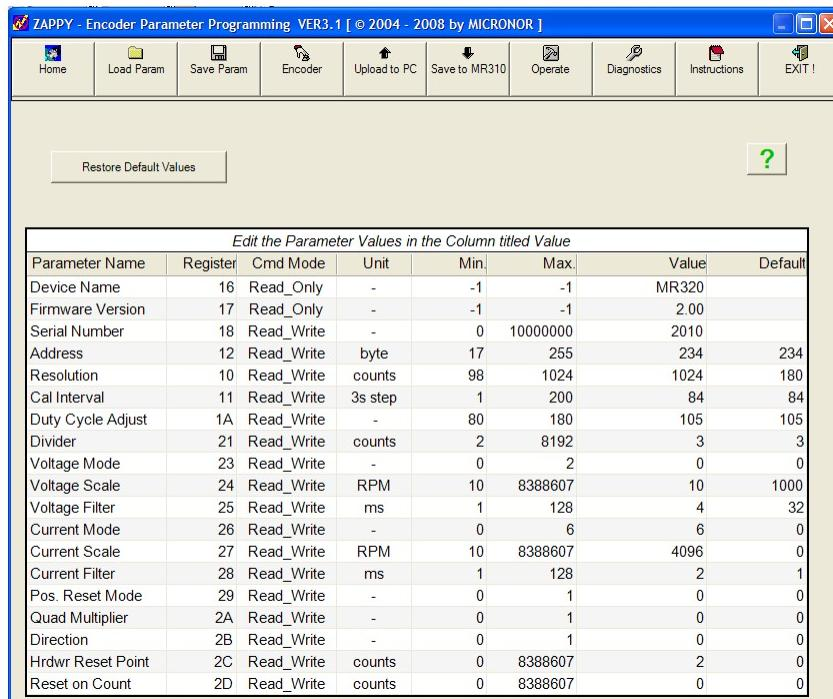

Figure 15. ENCODER Table View Screen via ZAPPY™ Software
- STEP 1: Select [UPLOAD TO PC] to load the current encoder parameter values from the MR310 into the Encoder Table View per Figure 15. If there is no serial communications connection, you will experience a “Communications Timeout” and you will need to troubleshoot the serial interface per Section 7.2 **Serial Interface**.
- STEP 2: Review the table contents and make any necessary changes to the parameter setup. Given the sample screen shown in Figure 15, let’s say that the existing encoder setup needs to be modified because the actual encoder has a resolution of 100 ppr. Simply type “100” followed by “**↵**” (ENTER) over the VALUE field for RESOLUTION.
In the ENCODER Table View (see Figure 15), note the Firmware Version of the MR310 when you [UPLOAD TO PC]. MR310 Firmware before Version 1.20 DOES NOT offer the following functions: